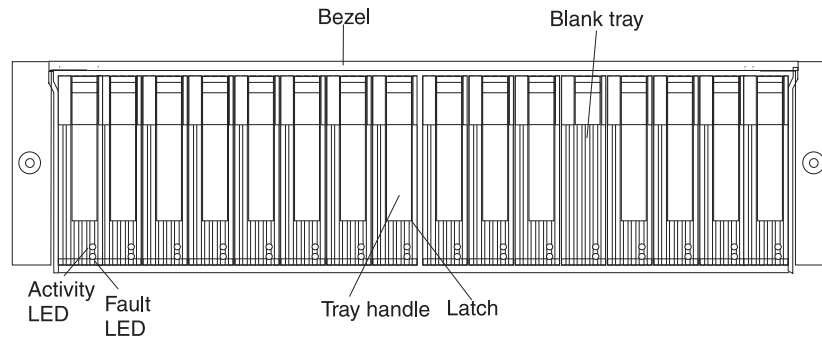

Figure 79. Hot-swap E-DDM LEDs
2. Check for Fault LEDs shown in Figure 79 on page 131. If any amber LEDs are lit, see "Solving problems" on page 155.